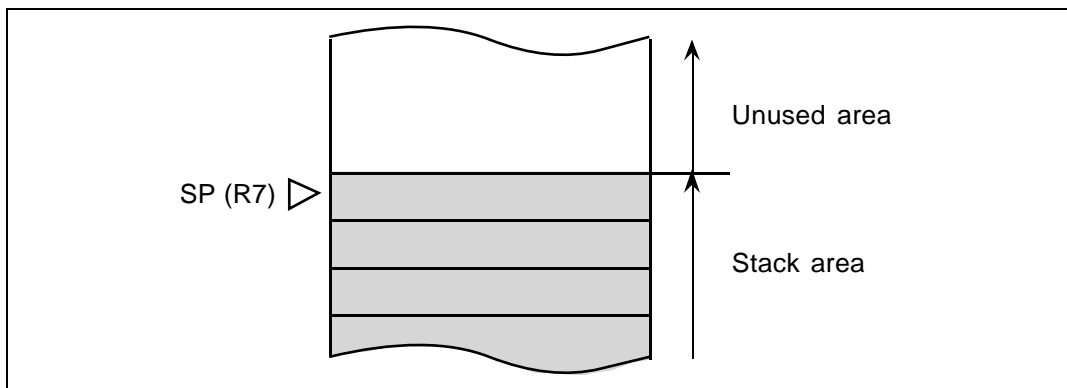

Figure 1-4 Stack Pointer
R7 also functions as the stack pointer, used implicitly by hardware in processing interrupts and subroutine calls. In assembly language, the letters SP can be coded as a synonym for R7. As indicated in figure 1-4, R7 (SP) points to the top of the stack.